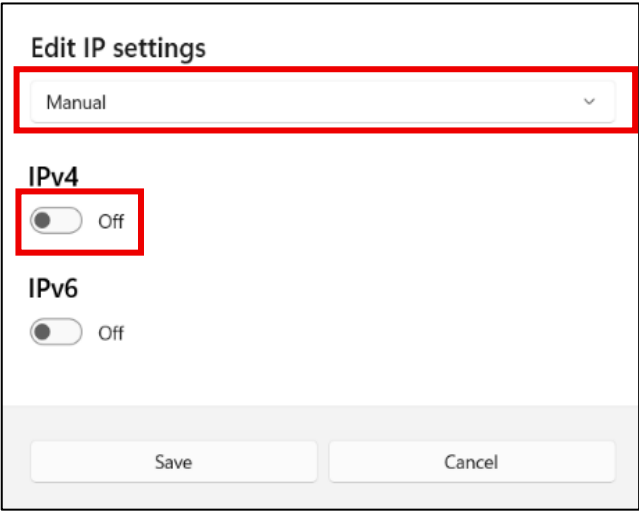

Figure 2: Network setting W2
- IV) Set Edit IP setting to *Manual* and then switch On IPv4, see Figure 2: Network setting W2